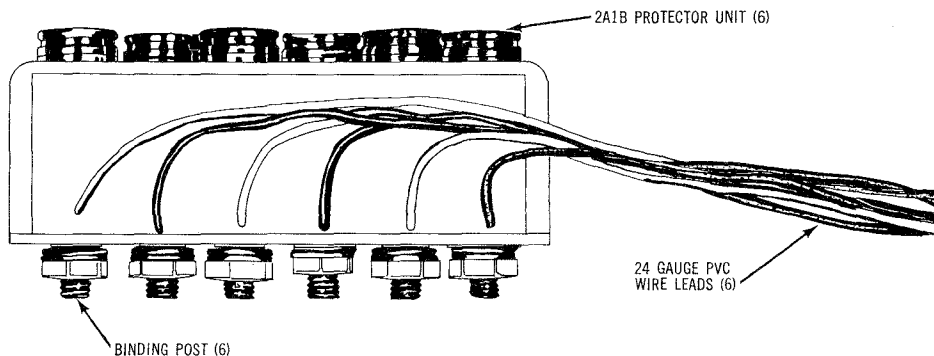

Fig. 6—N3A1B-3 Terminal Block
4.03 If cable pair protection is required the six pair block provided with the terminal is removed and a N3A1B-3 (3 pair, 6 Mil gap, protector unit) terminal block, Fig. 6, is installed.